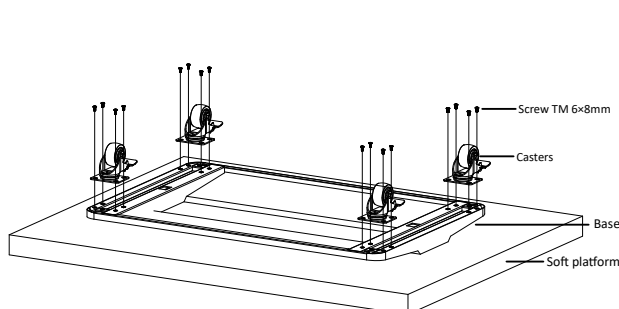

Figure 1
Step2 Take out 4 casters and install them on the base. Each caster is tightened and fixed with 4 pieces of TM6x8 screws(As shown in Figure 1)